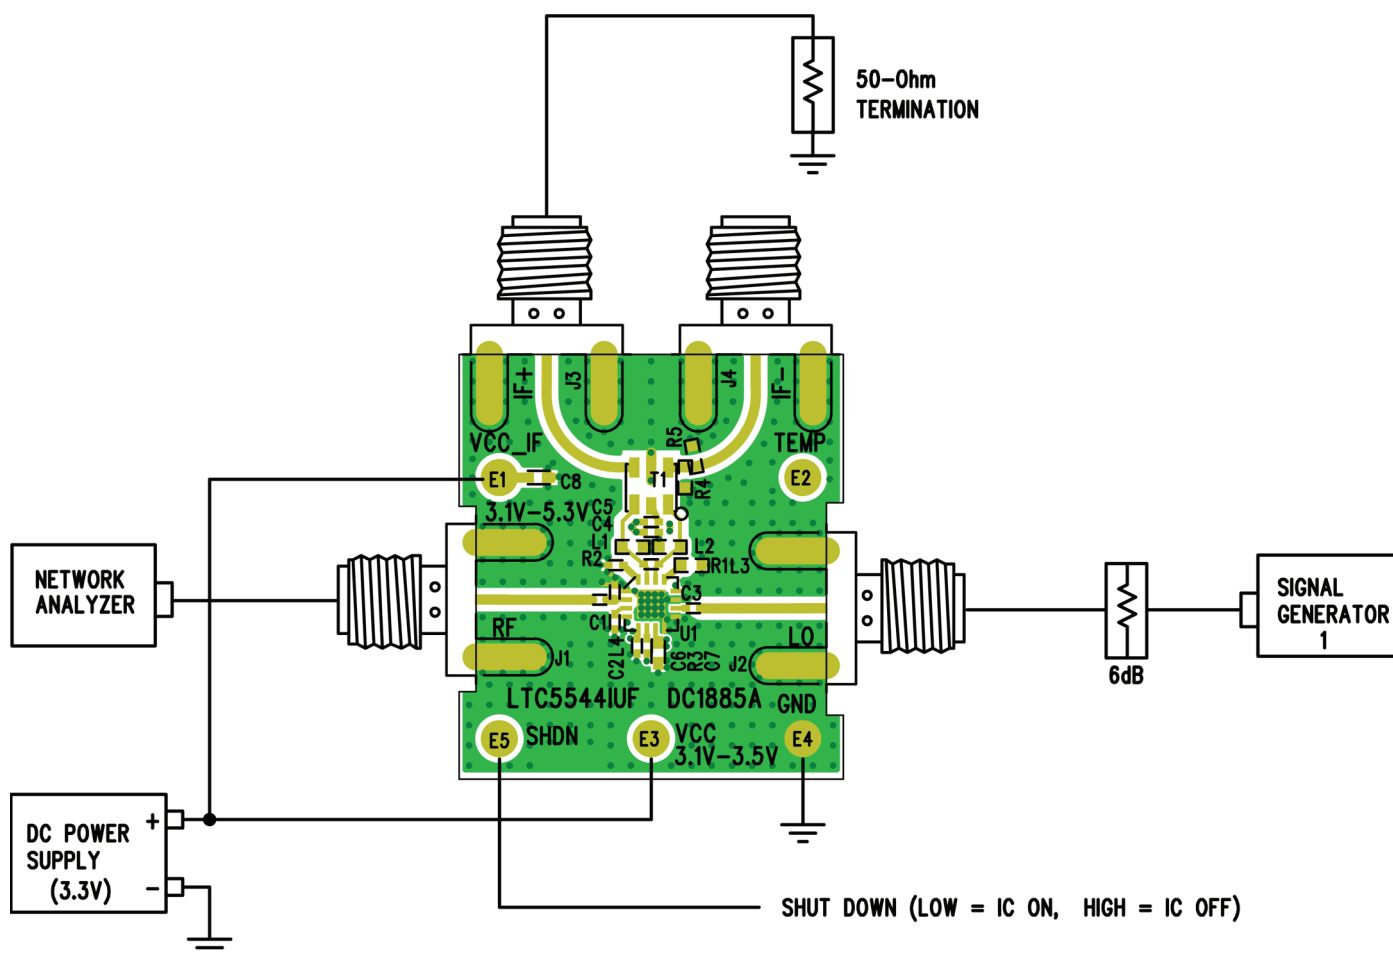
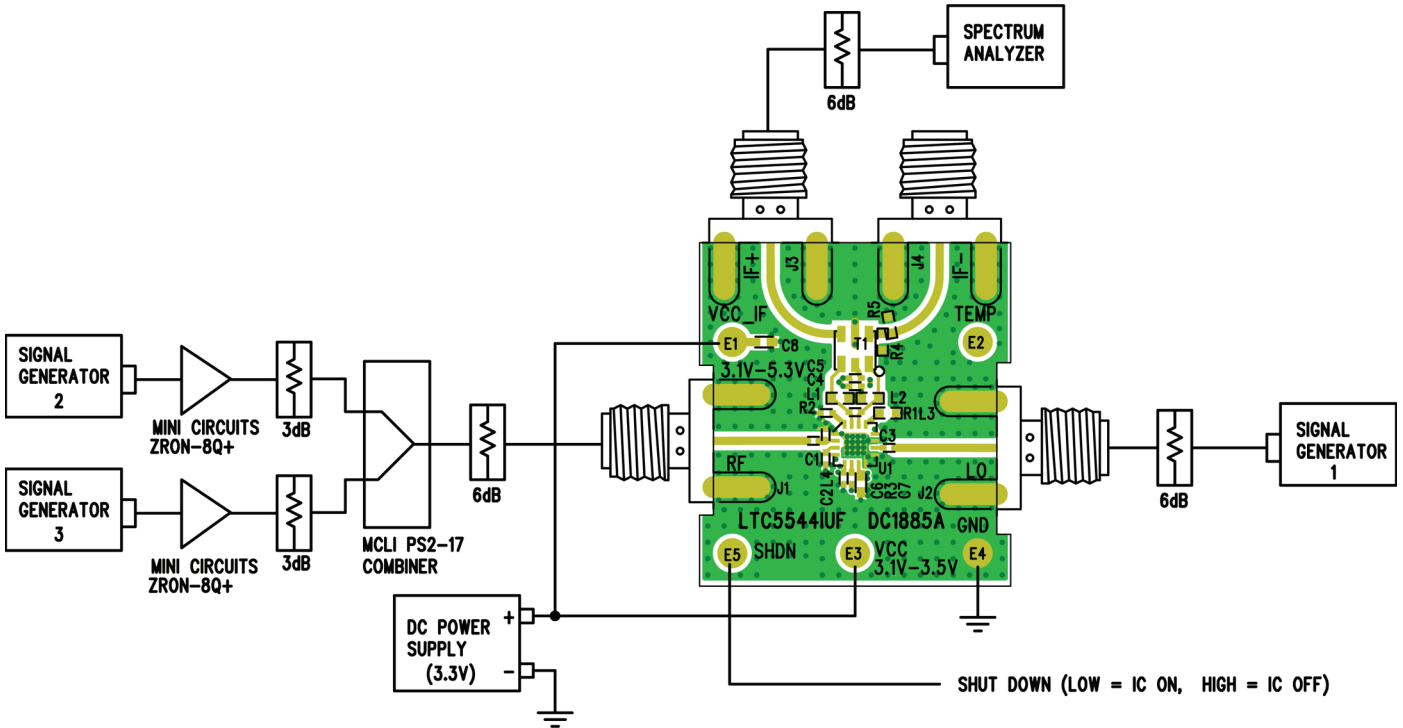

Figure 5. Proper Equipment Setup for Return Loss Measurements
Figure 6. Proper Equipment Setup for RF Performance Measurements
The LTC5544 is a high dynamic range downconverting mixer IC with very high input third order intercept. Accuracy of its performance measurement is highly dependent on equipment setup and measurement technique. The recommended measurement setups are presented in Figure 5, Figure 6 and Figure 7. The following precautions should be observed:
The LTC5544 consists of a high linearity passive double-balanced mixer core and IF buffer amplifier. Due to the bidirectional nature of all passive mixers, $LO\pm IF$ mixing product is always present at the RF input, typically at a level of 12dB below the RF input signal. If the $LO\pm IF$ "Pseudo-Image Spur" is not properly terminated, it may interfere with the source signals, and can degrade the measured linearity and noise figure significantly. To avoid interference from the $LO\pm IF$ "Pseudo-Image Spur", terminate the RF input port with an isolator, diplexer, or attenuator. In the recommended measurement setups presented in Figure 6 and Figure 7, the 6dB attenuator pad at the demonstration circuit's RF input serves this purpose.
Demonstration circuit 1885A is easy to set up to evaluate the performance of the LTC5544. Refer to Figure 5, Figure 6 and Figure 7 for proper equipment connections and follow the procedure below:
3. Connect all test equipment as shown in Figure 5 with the signal generator and the DC power supply turned off.
1. Connect all test equipment as shown in Figure 6 with the signal generators and the DC power supply turned off.